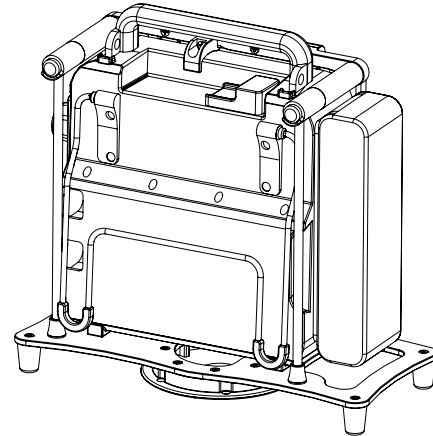

Figure 7: Closing and locking the support bracket
3. Flip the top of the support bracket over the medical device and press until the bracket is locked and secured (Figure 7).